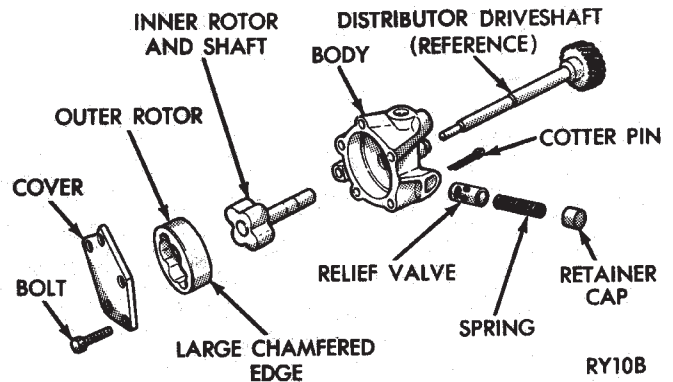

Fig. 58 Oil Pump
(2) Remove oil pump cover (Fig. 58).
(3) Remove pump outer rotor and inner rotor with shaft (Fig. 58).
(4) Wash all parts in a suitable solvent and inspect carefully for damage or wear.